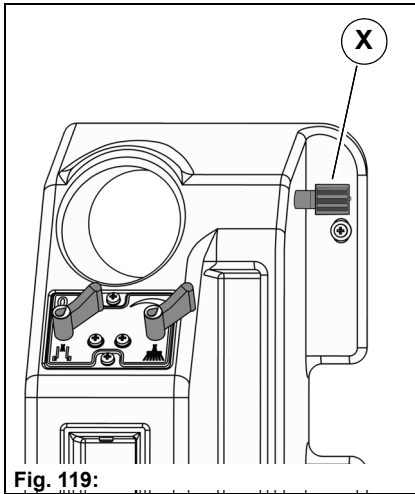

Fig. 119:
2. Raise the front tool carrier and fix it in the upper position with the lowering valve **Fig. 119-X**.
7. Open the lowering valve **Fig. 119-X** again.